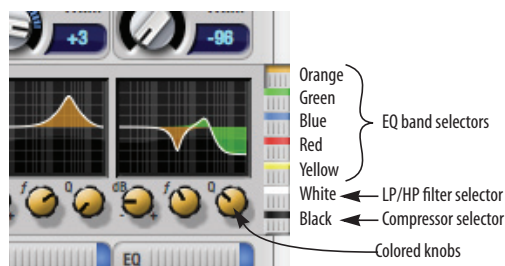

Figure 9-4: The EQ/Dynamics selectors.
Click the selector (Figure 9-4) for the desired EQ band, low-pass (LP) filter, high pass (HP) filter or compressor to view it across all channels.